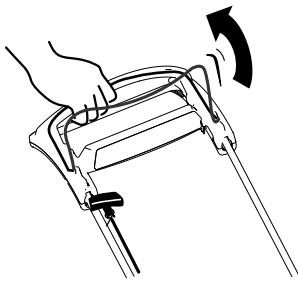

Figure 17
2. Pull the blade-control bar to the handle (Figure 17).